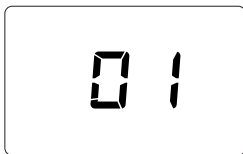

fig. 5- Switching on / Software version
- During the first 5 seconds the display shows the card software version (fig. 5).